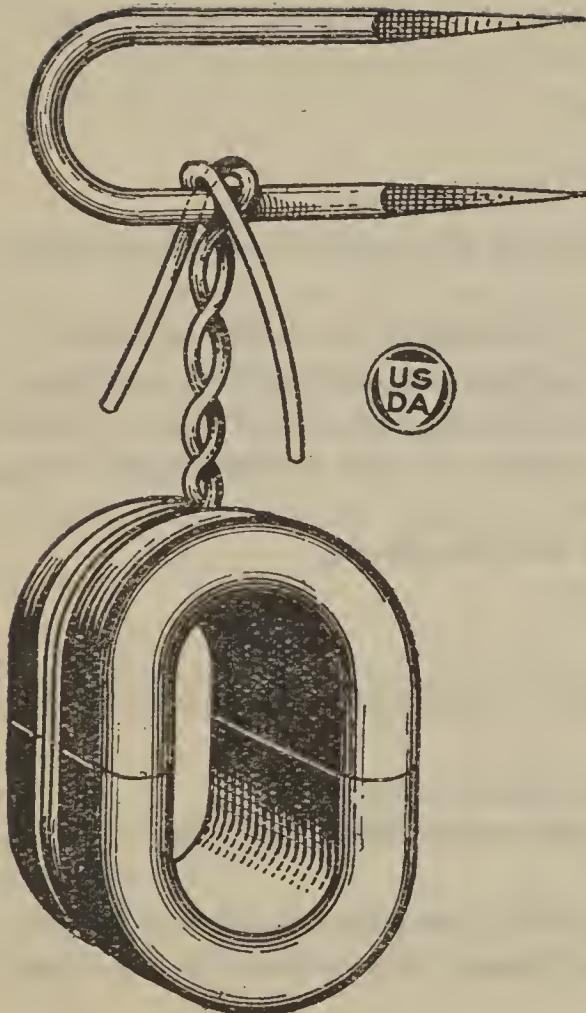

FIG. 9.—Method of attaching split tree insulator.
3. All replacements of split tree insulators should be attached to the tree, the pull-away tie method, as shown in Figure 9 in this manual, being used. In fastening this tie a 3-inch staple should be used for thin-barked trees and a  $3\frac{1}{2}$  or 4 inch staple for thick-barked trees. No. 12 wire only should be used in making this tie.
6. In replacing split tree insulators, use only the D-1 oval brown type. (See fig. 9.)